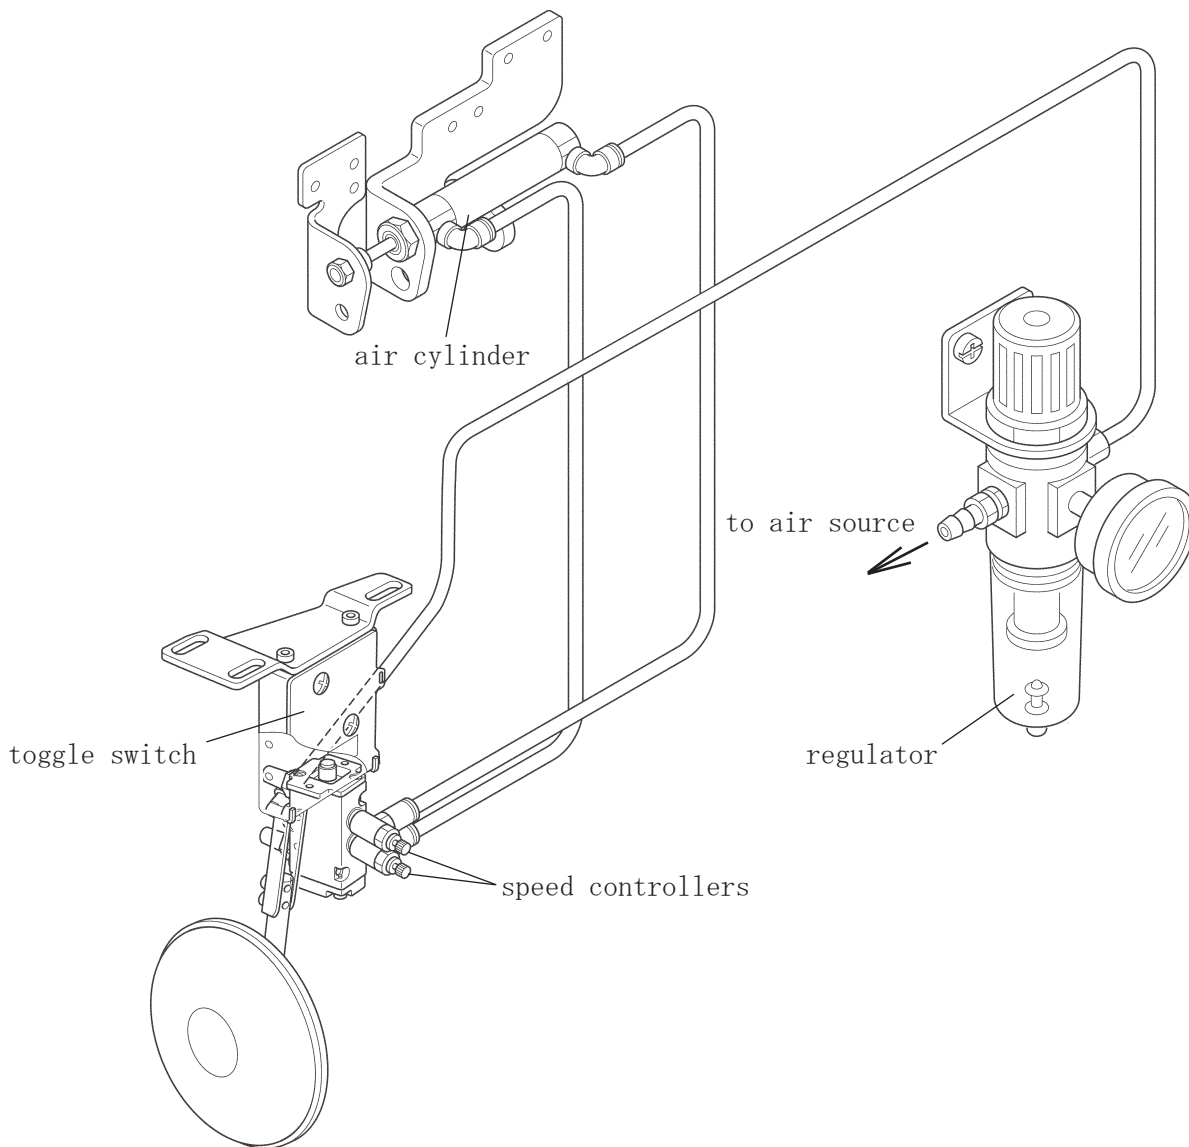

Fig. 1-5
- (1) Set the toggle switch and regulator on the back surface of a machine table with the wood screws.
- (2) Make air wiring referring to Fig. 1-5.
- (3) Set the air pressure to 0.2 MPa.